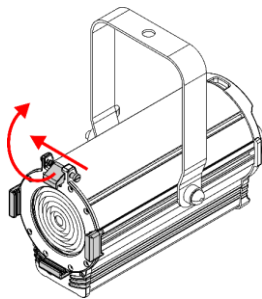

Fig. 13
- 01) Push the **spring-loaded screw (01)** and at the same time lift the **color frame clip (02)** and flip it backwards (see Fig. 13).